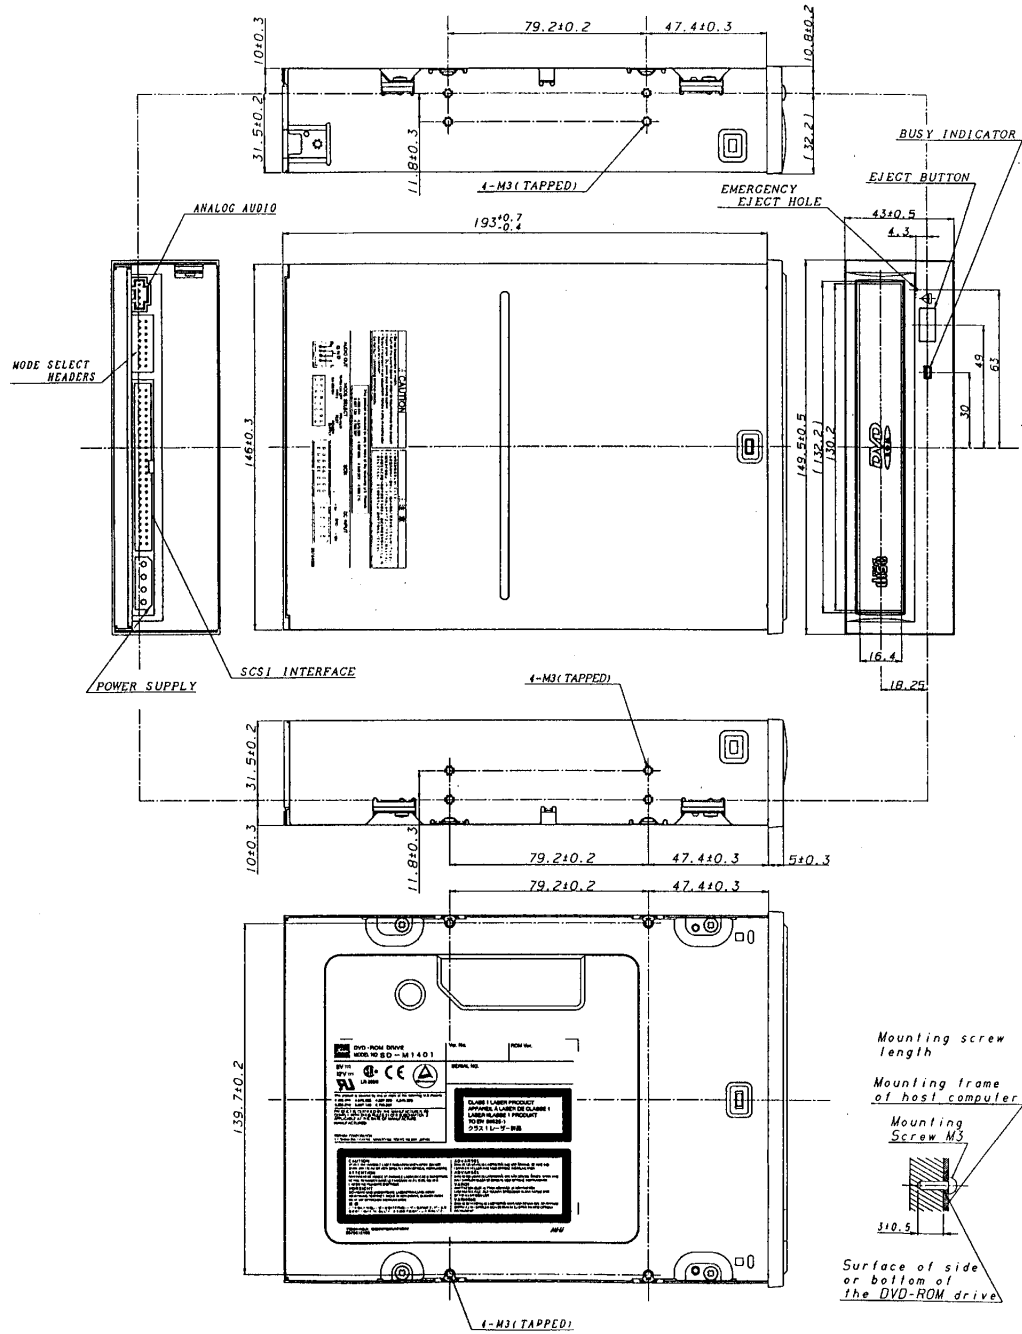

Figure 2 External Dimensions (Unit: mm)
3.4. Dimension and Mass ----- See Figure 2 for details -----